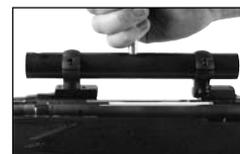

Figure 3
- e. Thread the handle into the hole on the lapping bar. (Figure 3) **NOTE:** Two threaded holes are provided in the lapping bar for the handle. For most applications, mounting the handle in the center of the lapping bar will provide the most control and ease of use while lapping. For mounting systems with closely spaced rings, it may be more convenient to mount the handle at the end of the bar.